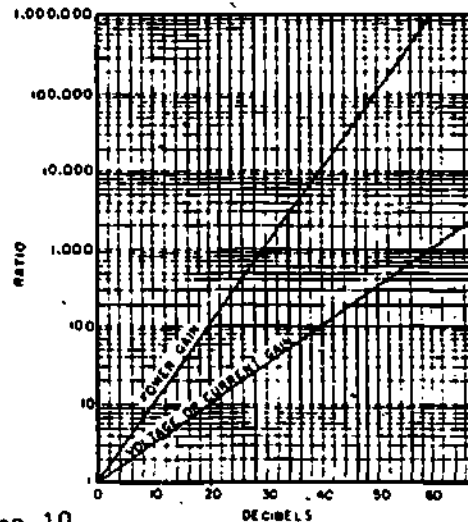

Figure 19
24. THIS IS A TEST FRAME. ANSWER THE TEST QUESTIONS AND COMPARE YOUR ANSWERS WITH THE ANSWERS GIVEN AT THE TOP OF THE PAGE FOLLOWING THE TEST QUESTIONS. WHERE NEEDED USE THE DECIBEL CHART/GRAPH SHOWN IN FIGURE 19 TO FIND YOUR ANSWERS.